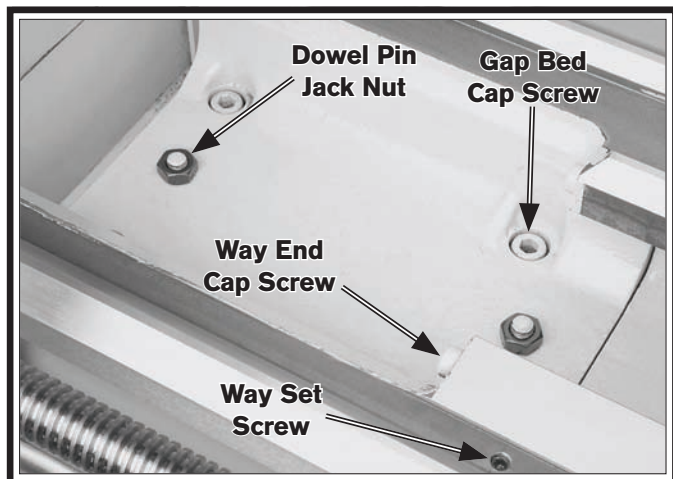

Figure 151. Fasteners holding gap in place.
1. Remove the four gap bed cap screws, shown in **Figure 151**, that secure the gap insert to the bed.
2. Remove the two way end cap screws and way set screws shown in **Figure 151**.
3. Tighten the two dowel pin jack nuts (**Figure 151**) until the pins are pulled free from the gap insert.